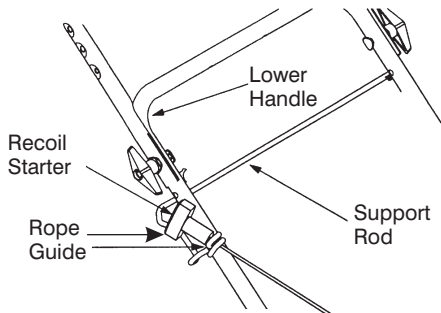

Figure 3
- The rope guide (pigs tail) is part of the grass catcher support rod attached to the lower handle. See Figure 3. With the **spark plug wire disconnected and grounded as instructed in the separate engine manual**, hold the blade control handle against the upper handle, and pull the starter rope out of the engine slowly until it extends past the rope guide (pigs tail).
The recoil starter handle is attached to the handle. See Figure 3. Stand behind the unit in the operating position to start the unit.